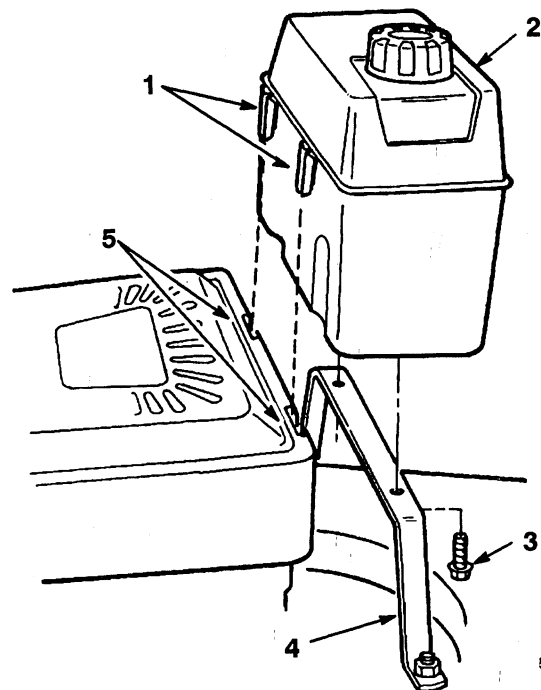

Figure 2
2. Hook plastic clips on front of gas tank into slots on rear of engine (Fig. 2).
3. Secure gas tank to tank base with (2) self-tapping screws (Fig. 2). Do not overtighten screws.